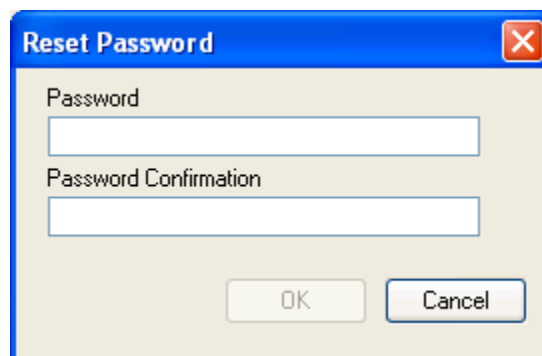

Figure 82 - Reset Password Window
1. Click on the **Reset Password** button. The **Reset Password** window (Figure 82) appears.